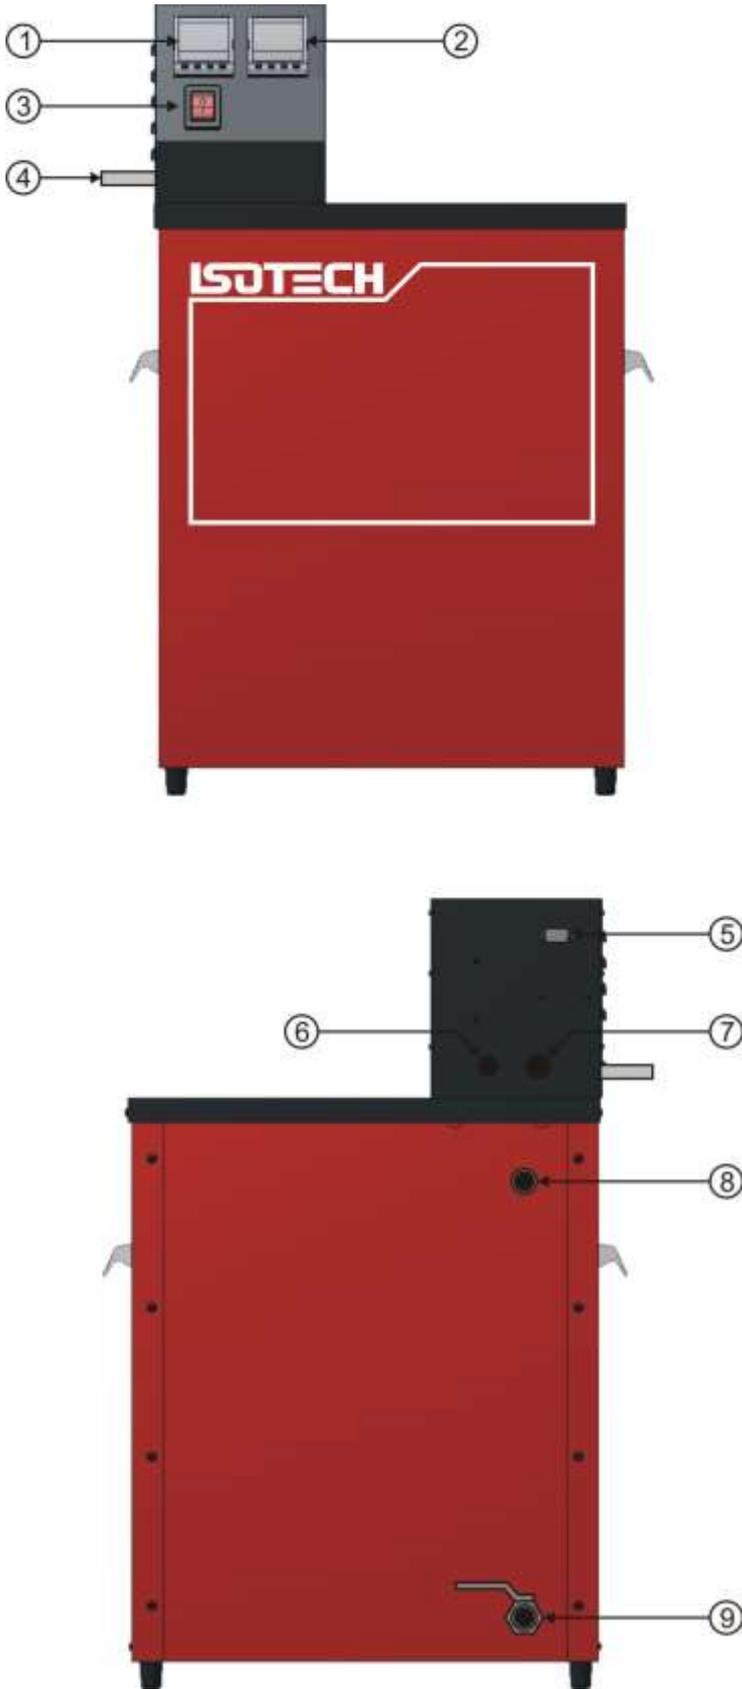

Figure 1
The 820 has an internal cooling coil fitted. Access for the cooling coil is via two pipes on the controller box side panel (see fig 1 item 4).